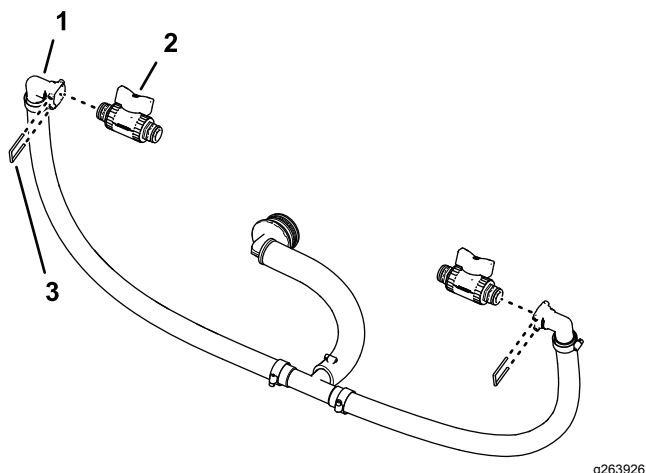

Figure 92
1. As shown in Figure 92, remove the retainer from the 90° quick-connect fitting.
2. Assemble the shutoff valve into the quick-disconnect fitting socket (Figure 92).
4. Assemble the shutoff valve and retainer that you removed in step 1 of Removing the Section Bypass Hose \(page 32\) to the other quick-disconnect fitting socket (Figure 92).